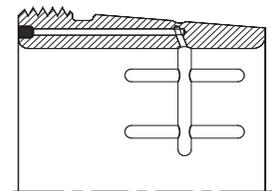

Fig. 2.24
- d) Withdrawal sleeves (fig. 2.24)